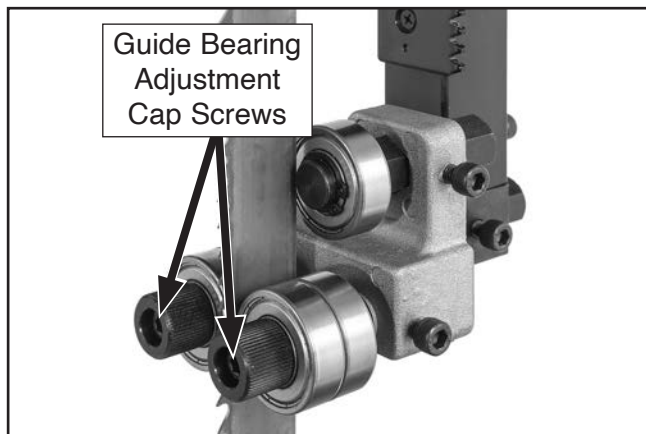

Figure 51. Location of upper guide bearing adjustment cap screws (guide post cover removed for clarity).
3. Loosen both guide bearing adjustment cap screws (see **Figure 51**), then position guide bearings so they are close to—but not quite touching—sides of blade.